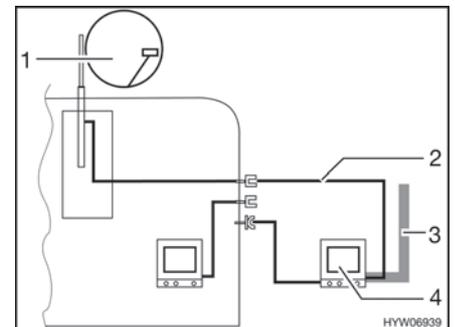

Fig. 150 TV in the awning
- TV inside the awning (Fig. 150,4): Connection to roof antenna (Fig. 150,1) with connection cable (Fig. 150,2)
- TV inside the awning (Fig. 150,4): Connection to external antenna (Fig. 150,3)